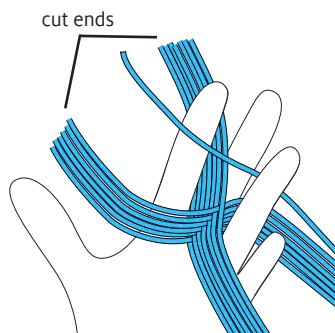

FIGURE 16: HOLD THE CROSS
10. Hold the cross in your non-dominant hand, separating each section as in Figure 16. Cut the loops at the end. Remove the cross ties—do not cut the warp yarn. Notice that the ends stack up Lincoln-log style.